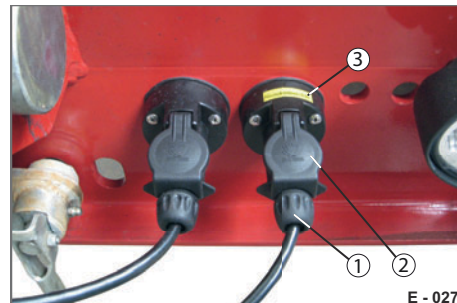

Fig. 22 Inserting rotating light
- Open the cover of the socket (Fig. 22/2) and insert the plug (Fig. 22/1). Observe the label (Fig. 22/3) on the socket for the rotating light.